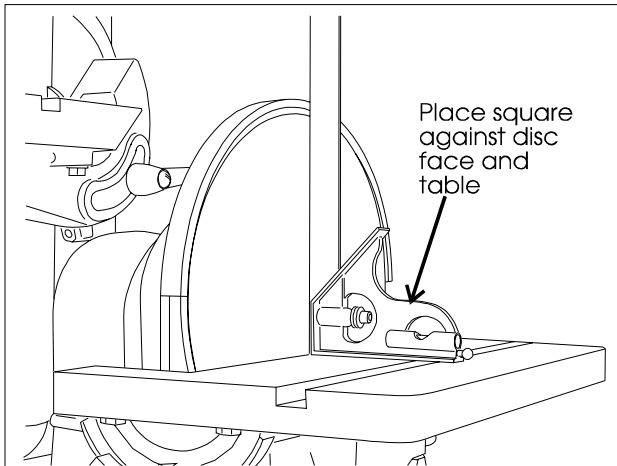

Figure 15: Using a square to check the disc table scale.
3. Using a machinist's square against the table and disc, set the table at exactly  $90^\circ$  to the disc (See Figure 15).